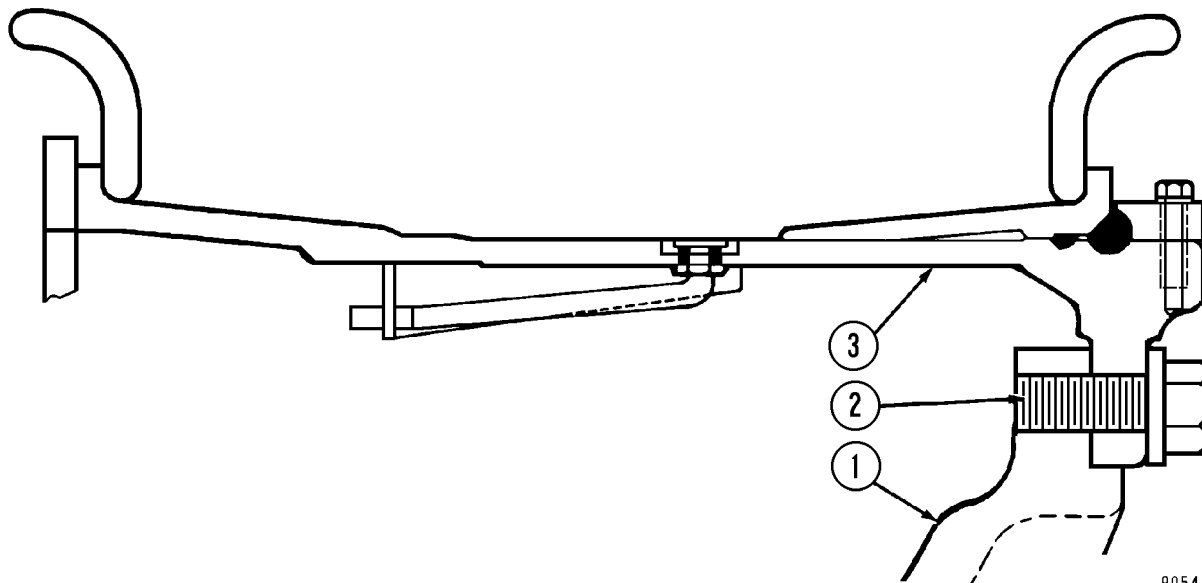

FIGURE 2-2. FRONT WHEEL AND TIRE
6. Remove capscrews and washers (2, figure 2-2).
1. Grasp tire assembly with the tire handler and move into position on wheel hub (1, Figure 2-2). Install capscrews and washers (2). Alternately tighten each capscrew to **1050 ft. lbs. (1424 N.m)** torque.